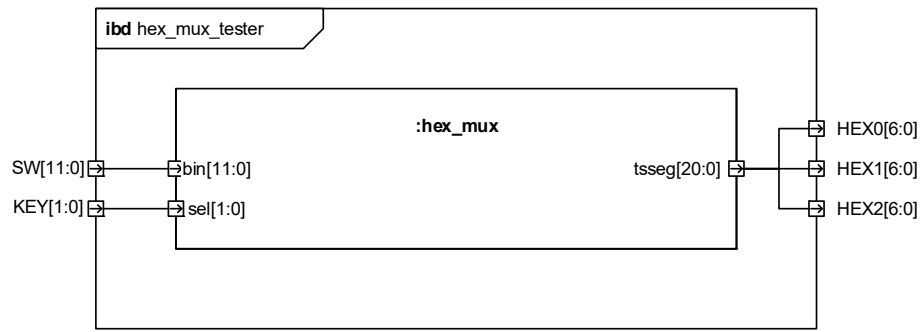

Fig. 3: When tester.
- Create a tester as shown in figure 3.